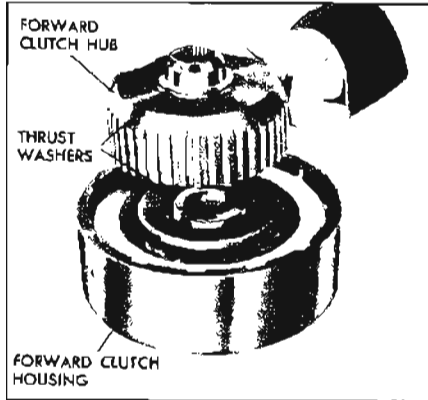

Figure 5-602
3. Remove the forward clutch hub and thrust washers. See Figure 5-602.